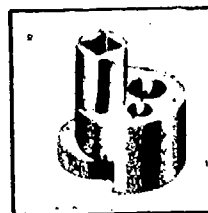

Fig 1-6. Cam-type stud remover.
c. Stud remover. A stud is a round bar with threads on both ends. It is usually screwed into a large part and a smaller part is attached by a nut screwed on the other end. Removal is usually required because the threads for the nut have been damaged or the stud is bent. In emergencies the stud may be removed with pliers, a pipe wrench, or another tool for round objects, but you should be careful not to damage the new replacement stud. Figure 1-6 illustrates the proper tool for removing and installing studs. Keep the tool clean and don't let it slip on the stud and it will do little or no damage to the stud.